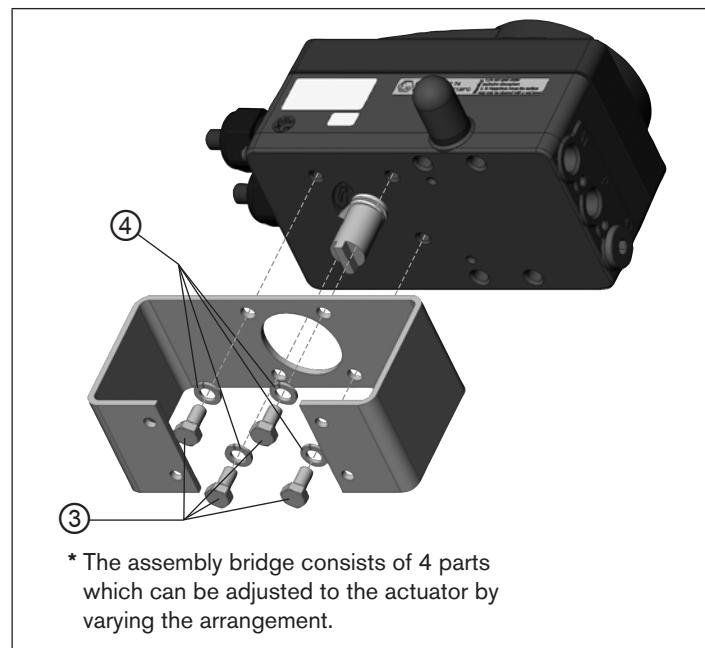

Fig. 7: Attach assembly bridge (schematic representation)
→ Attach the assembly bridge to the Type EP 501/EP 501 C using 4 cheese-head screws ③ and circlips ④ (see „Fig. 7“).